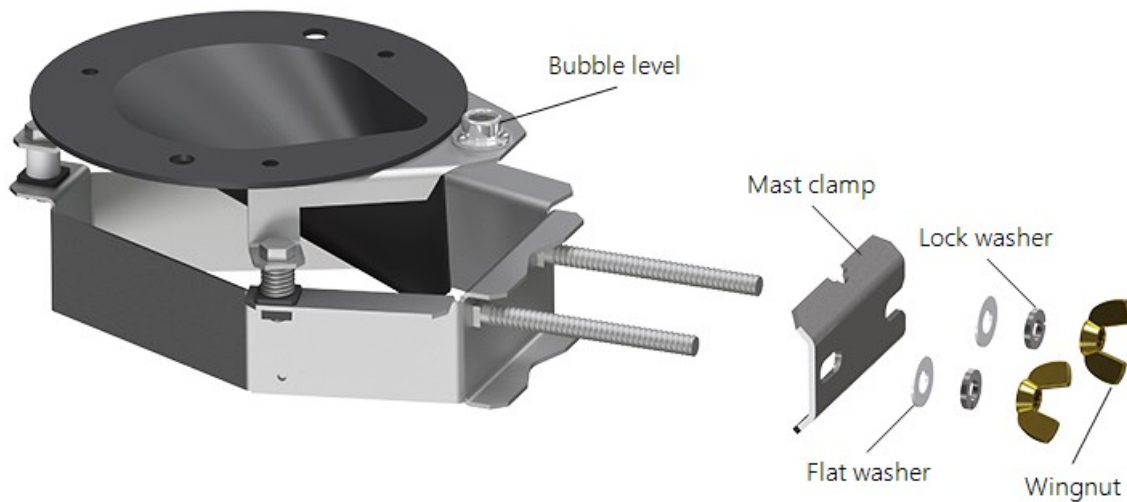

FIGURE 6-7. Exploded view of CM270 mounting hardware (TE525WS not shown)
2. Loosen the mounting bracket's wingnuts and slide the assembly over the pipe. If necessary, the pole mounting hardware can be removed to get the bolts around the pipe. If this is necessary, to reassemble, put the mast clamp on first followed by the flat washer, lock washer, and wingnut. See FIGURE 6-7 (p. 10).